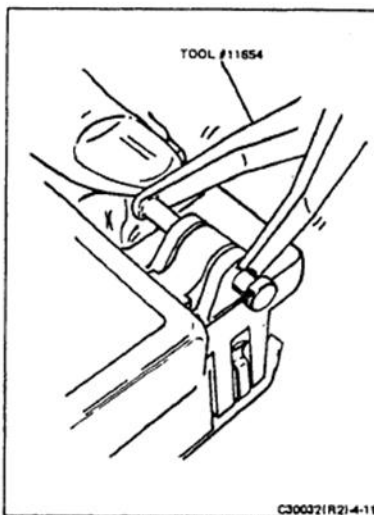

FIGURE 4-11 REMOVING MIRROR COVER/INNER FRAME HINGE PINS
11. Using Special Tool #11654, remove the mirror-cover-to-inner-frame hinge pins (Figure 4-11).
7. Remove the mirror cover to inner frame hinge pins, using Special Tool #11654 (Figure 4-11).